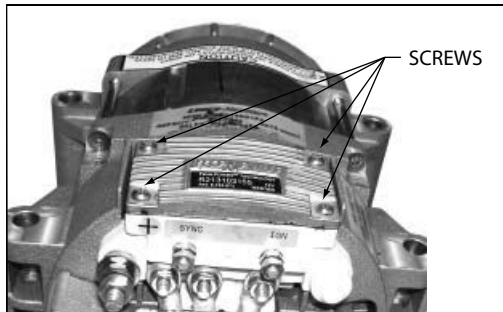

Fig 1
- 1) Remove 4 screws that attached the regulator to alternator (Fig 1).
5) Place regulator back onto alternator. Use caution not to pinch regulator sense wires (Fig 6). Apply a small amount of downward pressure on the regulator and remove the retaining pin (Fig 5) from the Access Hole to release the brush springs. Hold down the regulator and secure it with 4 #8-32 screws. Torque screws to 11-13 LB-IN (Fig 1).